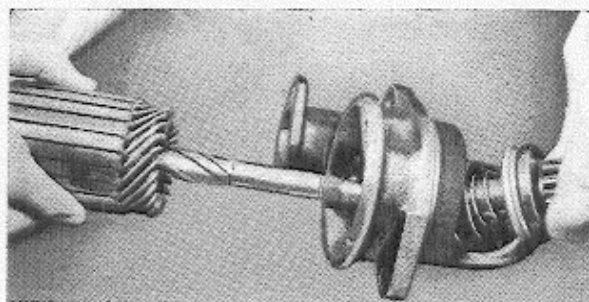

Fig. 49.
7. Lift the rotor out from the commutator end head and starter gear and then lift out the starter gear from the end head, see Fig. 49.